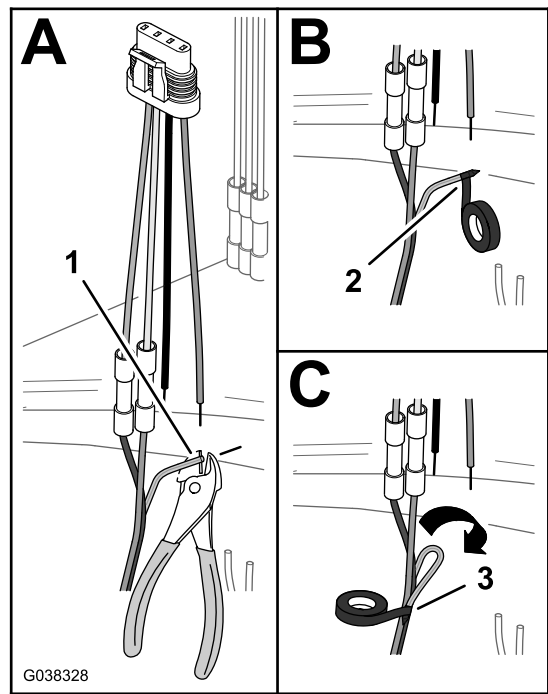

Figure 40
- A. Cut the conductors of the green and yellow wire flush with the insulation (Figure 40).
- B. Wrap the end of the green and yellow wire with electrical tape to seal the wire (Figure 40).
- C. Fold the green and yellow wire to the brown wire and wrap the 3 wires together with the electrical tape (Figure 40).